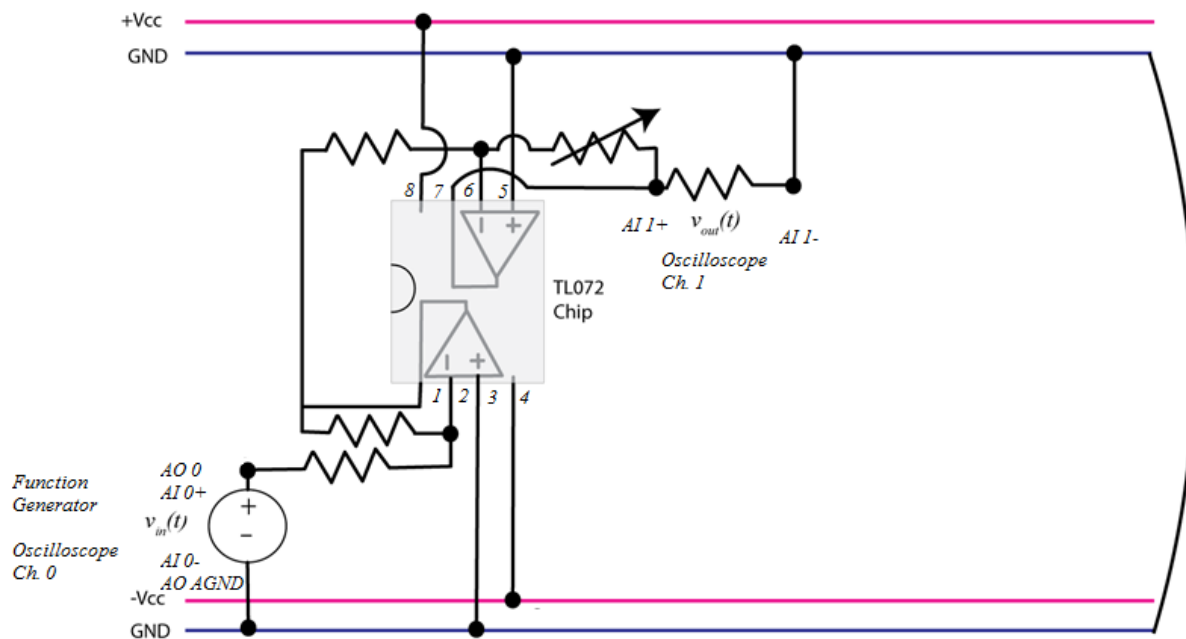

Figure 6: Prefilter (gain circuit)
1. In this part you will build the prefilter shown in Figure 6. First, set up the power busses on your breadboard by turning the board horizontal such that the red buss is on top. Use a wire to jump the two blue busses together and this will be the **ground** buss. The top red buss will be for the **+Vcc** or 15V on the operational amplifier. The bottom red buss will be for the **-Vcc** or -15V on the operational amplifier. **DO NOT CONNECT THE POWER FROM THE NI MYDAQ UNTIL THE END.**